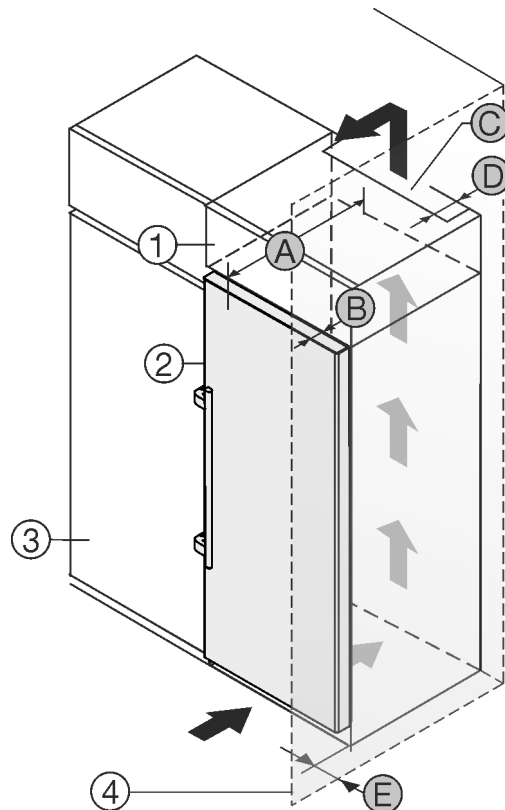

Fig. 2
- (1) Top cabinet\*
- (2) Appliance\*
- (3) Kitchen cabinet\*
- (4) Wall\*
- (A) Appliance depth\*
- (B) Door depth\*
- (C) Ventilation cross-section\*
- (D) Distance to the rear of the appliance\*
- (E) Distance to the side of the appliance\*
Set up the appliance directly next to the kitchen cabinet Fig. 2 (3).\*
There must be a ventilation shaft at the depth Fig. 2 (D) of the back of the top cupboard over the entire width of the top cupboard.\*
The cross section of the ventilation gap Fig. 2 (C) must be maintained below the ceiling.\*
If the appliance is installed with the hinges next to a wall Fig. 2 (4), the distance between the appliance and the wall must be at least 57 mm (2.24 in). This is how far the handle protrudes when the door is open.\*
In order to be able to fully open the door, the appliance must protrude by the depth Fig. 2 (B) of the door from the front of the kitchen cabinet. Regardless of the depth of the kitchen cabinets Fig. 2 (3) and use of wall spaces, the appliance can protrude further.\*